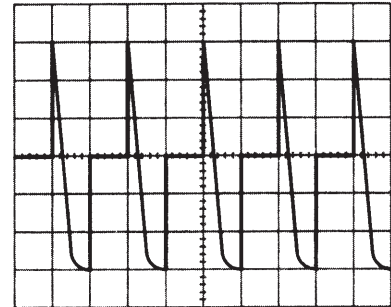

Fig. 11: Example of Trace
**Note:** When investigating a waveform as shown in Fig. 11 above, the display could not be obtained with a time delay setting of 10ms and display would be completely blanked. A delay of 0.1  $\mu$ s, however, would not be sufficient to delay the sweep to a visible amount. The delay switches should be slowly rotated clockwise until the trace starts, just prior to the time interval required to be investigated.